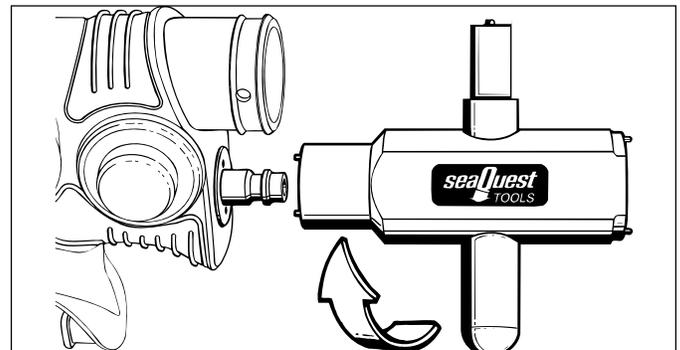

Figure 29
1.4.13 Once again, mate the male threads of the quick disconnect fitting over the crown housing and into the body, and turn clockwise by hand to engage the threads. Apply the T-Tool to tighten the fitting clockwise only until it is snug and its flange is seated flush against the body (see Fig. 29). Do not overtighten.